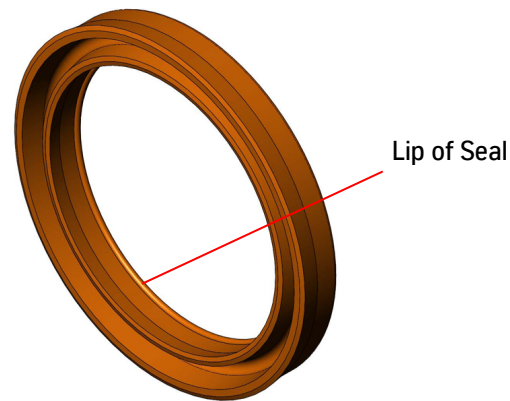

Figure 16 - Seal Orientation
2. Place the seal on top of the plunger. Make sure the lip of the seal faces down toward the pressure side. See Figure 16.